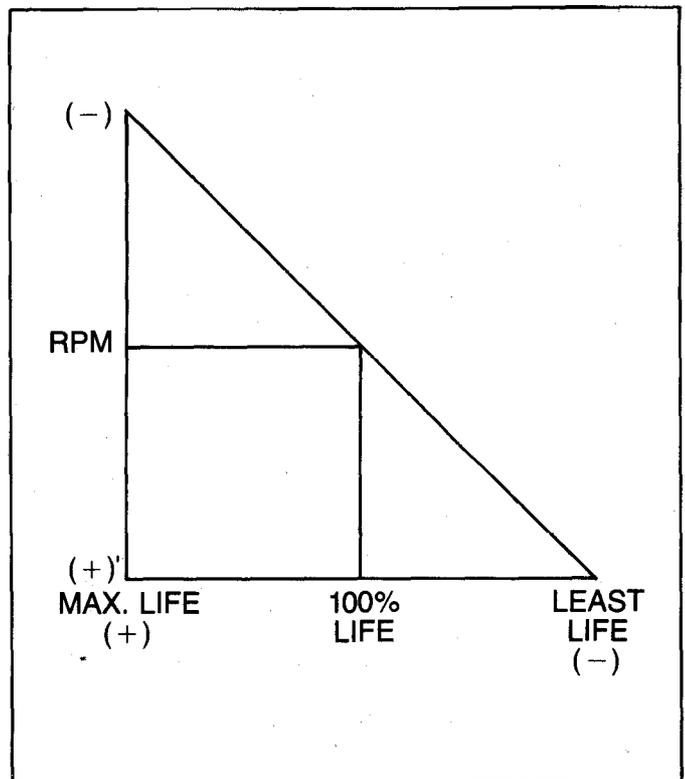

Figure 7-1 — Engine Speed to Engine Life
**NOTE:** There is a "truck rule of thumb" that says, "For good engine life, the engine shall not cruise for long periods of time at speeds in excess of 80-90 percent of engine governed speed or as rated." Full-rated speed is acceptable for short durations such as when the transmission is going through its shift points. The chart shown in Figure 7-1 shows the general relationship of engine speed to engine life.